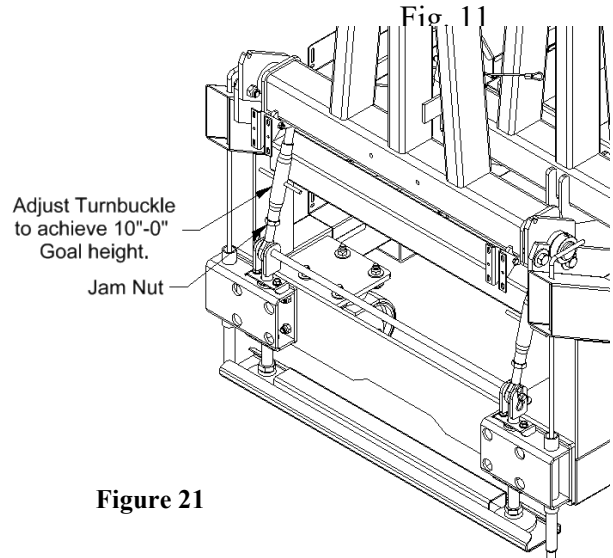

Figure 21
6. Check the 10'-0" goal height at the top surface of the goal ring nearest the board. If adjustment is required, loosen the turnbuckle Jam Nuts and adjust the Leveling Turnbuckles, as shown in figure 21, to obtain 10'-0" measurement, making sure each Turnbuckle is raised or lowered evenly so that unit frame is level side to side. Adjustment is easier when unit is in the lowered position. Tighten the Jam Nut when Goal adjustment is completed.